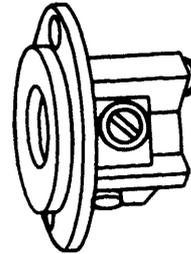

Figure 19. Number 47D Connecting Block.
4.08 The number 47D connecting block (Figure 19) was originated by WECO to supersede the number 47B block and permit the use of the same outlet plates as on the number 47C block. Although manufactured by WECO only in brown, ivory and olive gray, its equivalent is supplied by Communication Apparatus not only in those colors but in blue-beige as well. It is identical to the number 47B block except for minor tooling changes and for the raised circular area at the face which fits the opening in the number 16A and 19A outlet plates.